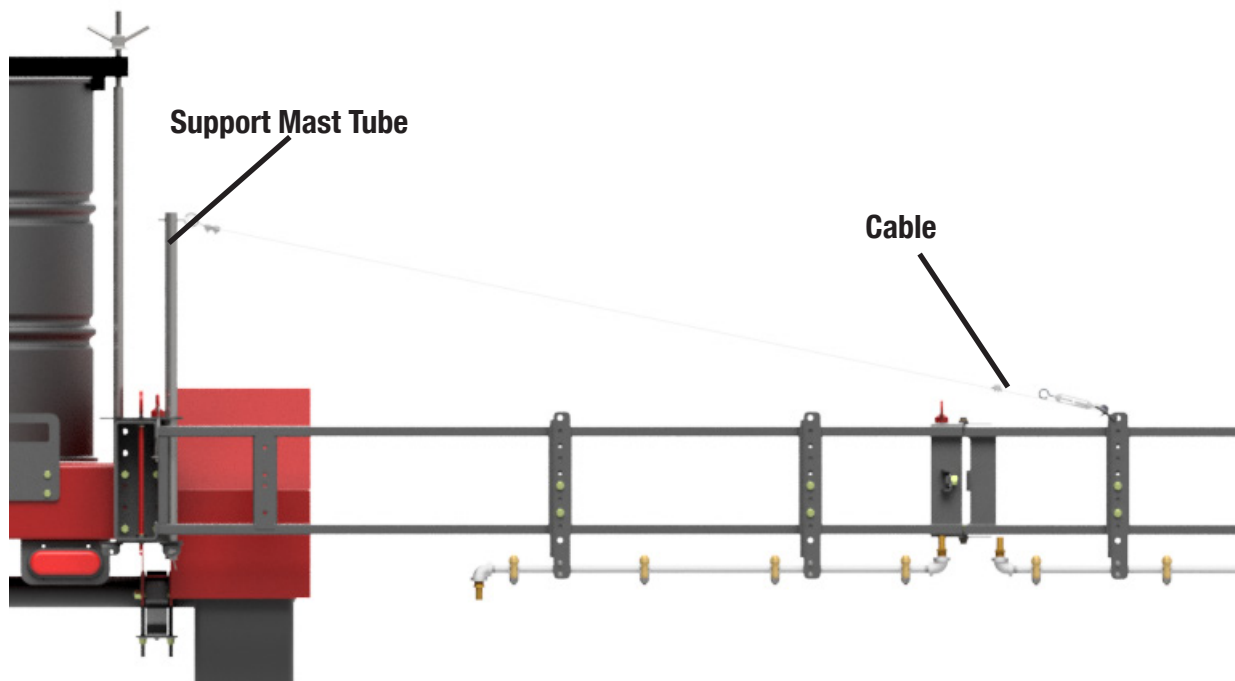

Figure 2.3: Support Mast and Cable
- Before unfolding the boom make sure that the supplied support mast tube and cable are installed. Install the support mast to the outer most hole on the mounting bracket. Secure the mast tube with the clevis pin. See Figure 2.3.